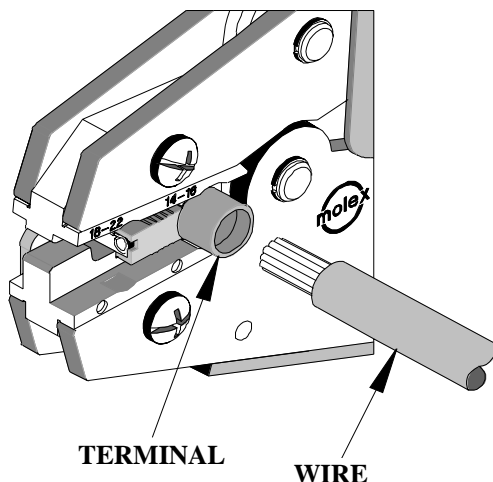

Figure 2
2. Partially close the tool to hold the terminal in place (See Figure 2).
3. Insert the properly stripped wire into the terminal barrel. (See Figure 2 and 3).